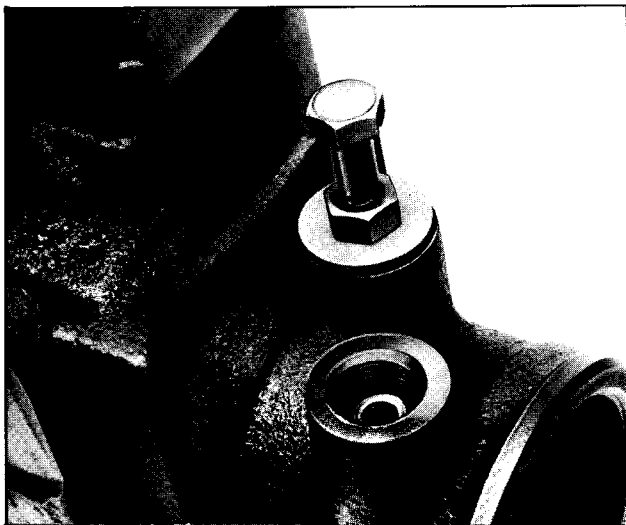

Fig. 9-98 Removing Hose Connector Seat
4. Thread a 5/16"-18 bolt with a nut and flat washer into tapped hole (Fig. 9-98).